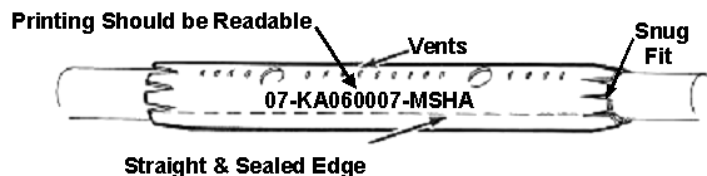

Figure 5
2. With cable straight, center mold over repair area with vent slits on top (printing on mold should be readable). Wrap snugly around, tucking one edge under. (Figure 5)